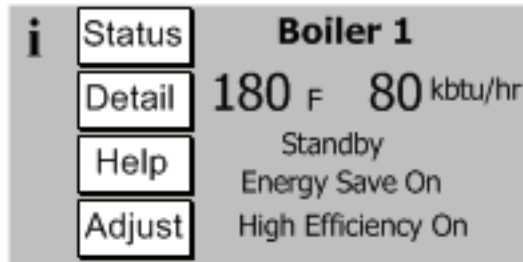
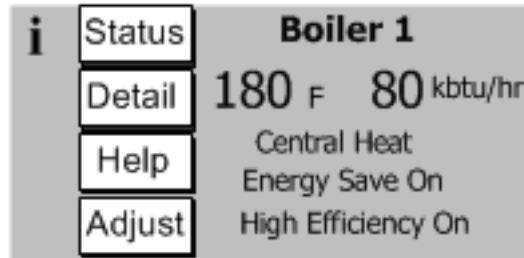

Figure 11.2a: Home Screen at Power-Up (No Call for Heat)
Figure 11.2b: Home Screen on Heat Demand
11. Start the boiler using the lighting instructions on page 103. With the boiler powered up, and with no call for heat, the display should look like Figure 11.2a. Once a call for heat is present, it will look like Figure 11.2b.